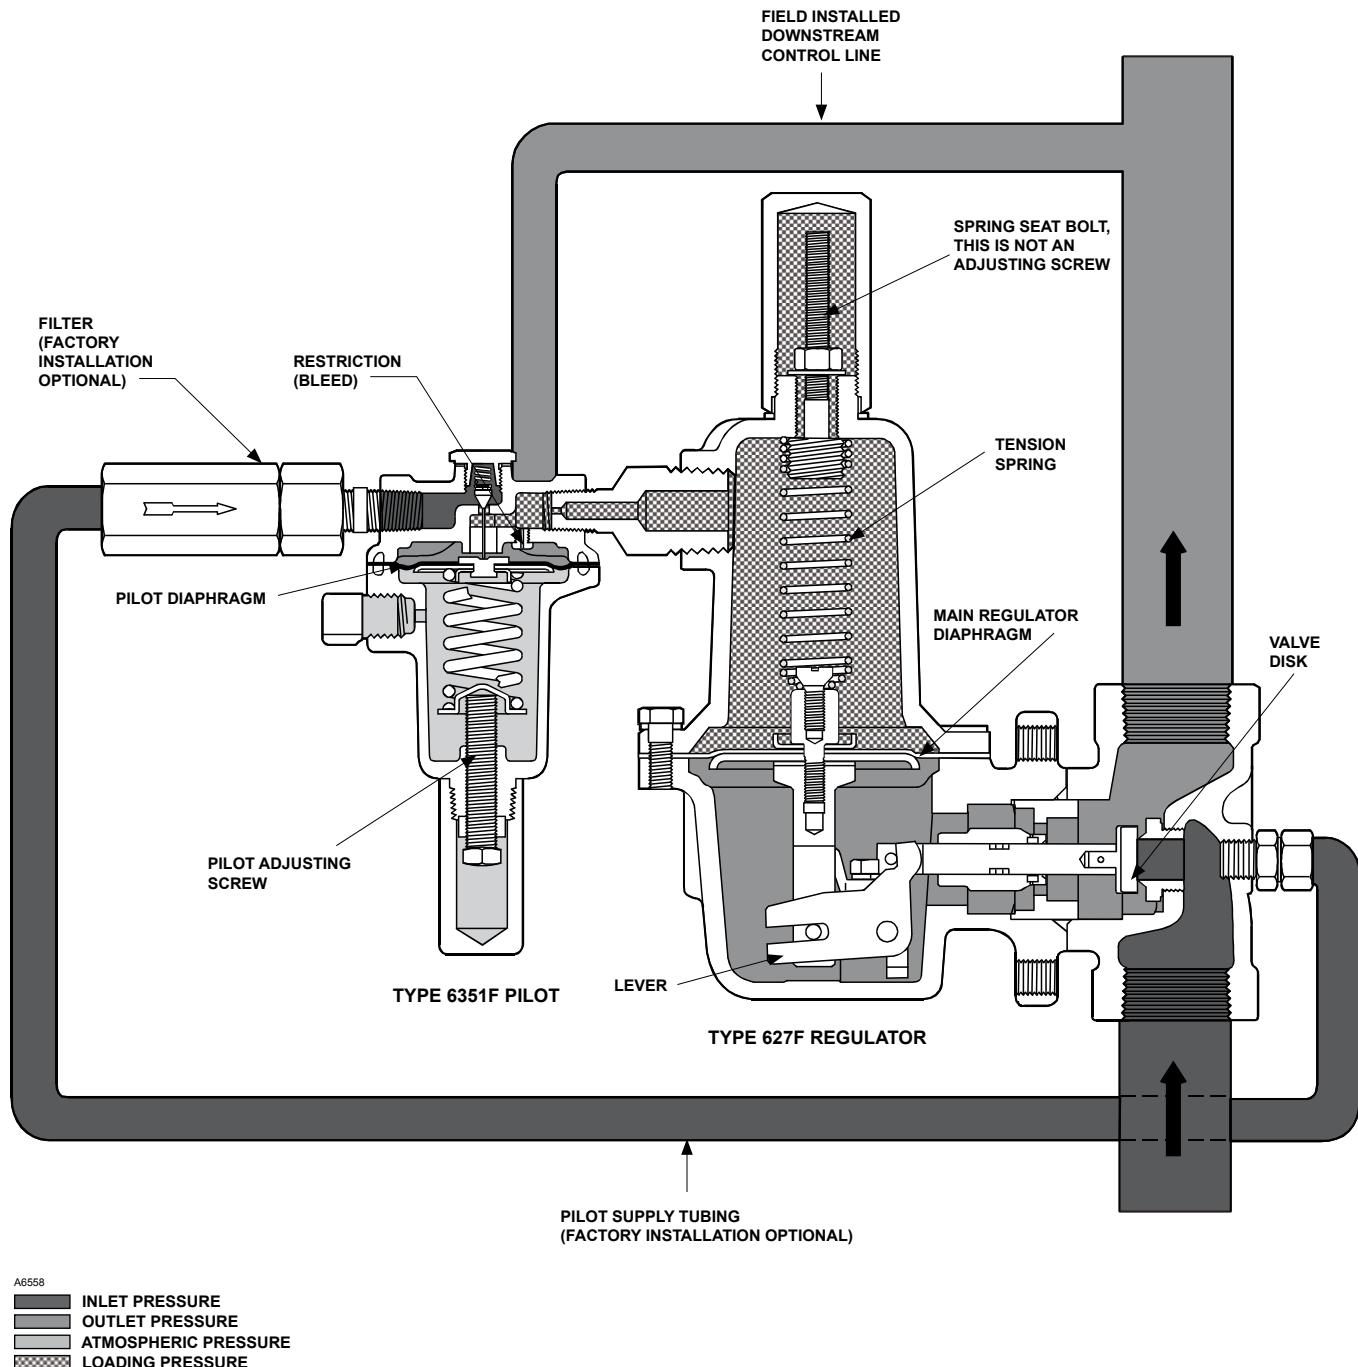

Figure 2. Type 627F Pilot-Operated Pressure Reducing Regulator Operational Schematic
- Tamper-Resistant**—An adjusting screw locknut and protective cap (Figure 2) is standard on all Type 6351F pilots to discourage tampering with the pressure setting.
line connection (see Figure 2)
The superior performance of a Type 627F regulator is due to the amplifying effect of the pilot and the two-path control system (Figure 2). Changes in outlet pressure act quickly on the main regulator diaphragm which repositions the valve disk to provide fast response to system changes. Simultaneously, the pilot amplifies system pressure changes to position the main regulator valve disk for precise pressure control.